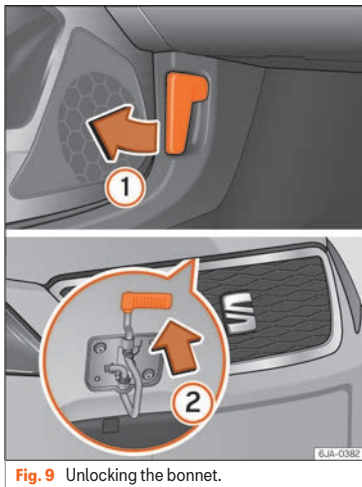
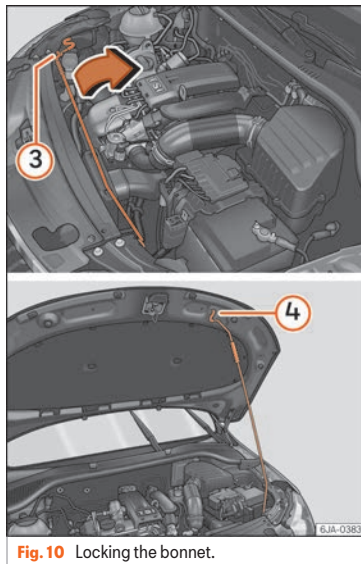

Fig. 9 Unlocking the bonnet.
Fig. 10 Locking the bonnet.
- Open the door and pull the lever under the dashboard »» Fig. 9 ①.
- To lift the bonnet: press the release catch under the bonnet upwards ②. The arrester hook under the bonnet is released.
- The bonnet can be opened. Release the bonnet stay in the direction of the arrow »» Fig. 10 ③ and secure it in the fixture designed for this in the bonnet ④.